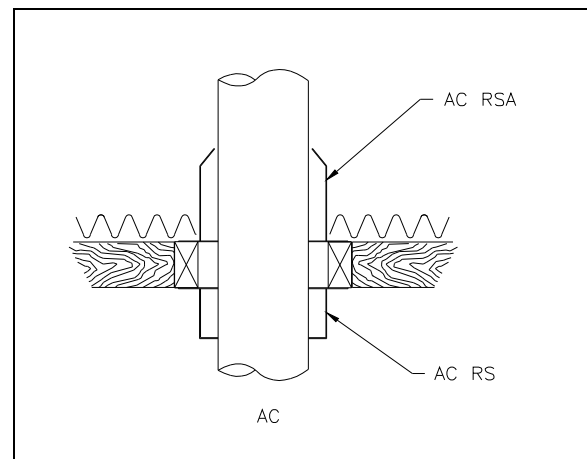

Figure 24
5. From below, install a fire stop. (See figure 24).